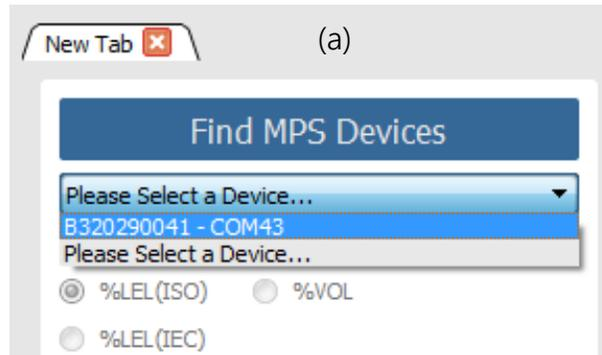

Figure 3 – Selecting the active MPS™ A2L Refrigerant Gas Sensor.
5. Click the "Find MPS Devices" button and select the MPS A2L Refrigerant Gas Sensor connected to the computer (Figure 3). The sensor name is found on the sensor serial number in the form: Bxxxxxxx.